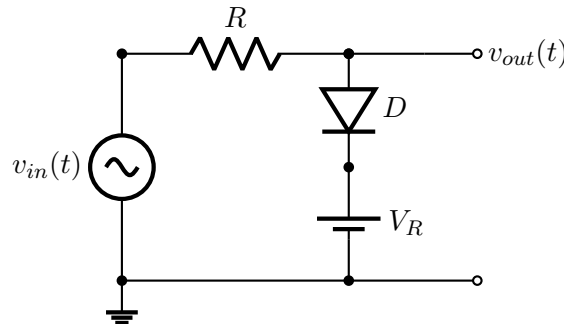

Figure 1.4: Biased shunt clipper. Output is clipped at approximately $V_R + V_F$.
(d) Biased Clippers. A DC bias source V_R in series with the diode (Figure 1.4) shifts the clipping level from V_F to $(V_R + V_F)$ or $(V_R - V_F)$, depending on polarity. This allows the clipping level to be set anywhere on the waveform. There are two ways to achieve the biasing. One is to provide a direct dc source. The other is to use a Zener diode or series combination of diodes to achieve the bias level.
4. Repeat for the biased clipper (Figure 1.4) for at least two values of V_R , and the double clipper (Figure 1.9a).
- Q2. Derive the expression for the clipping level of the biased clipper of Figure 1.4 in terms of V_R and V_F .